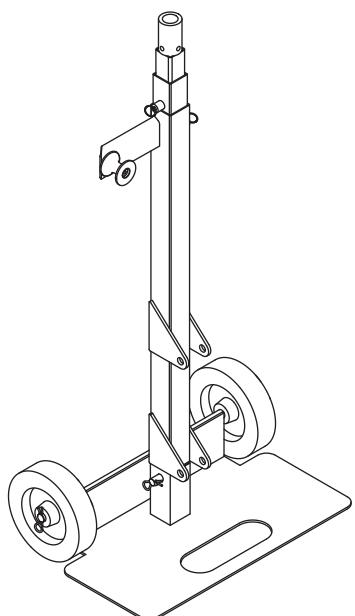

Figure 3
- Slide in the mid extension and top extension boom tubes as shown in Figure 3. Make sure all the ring pull detent pins engage with the other tubes.